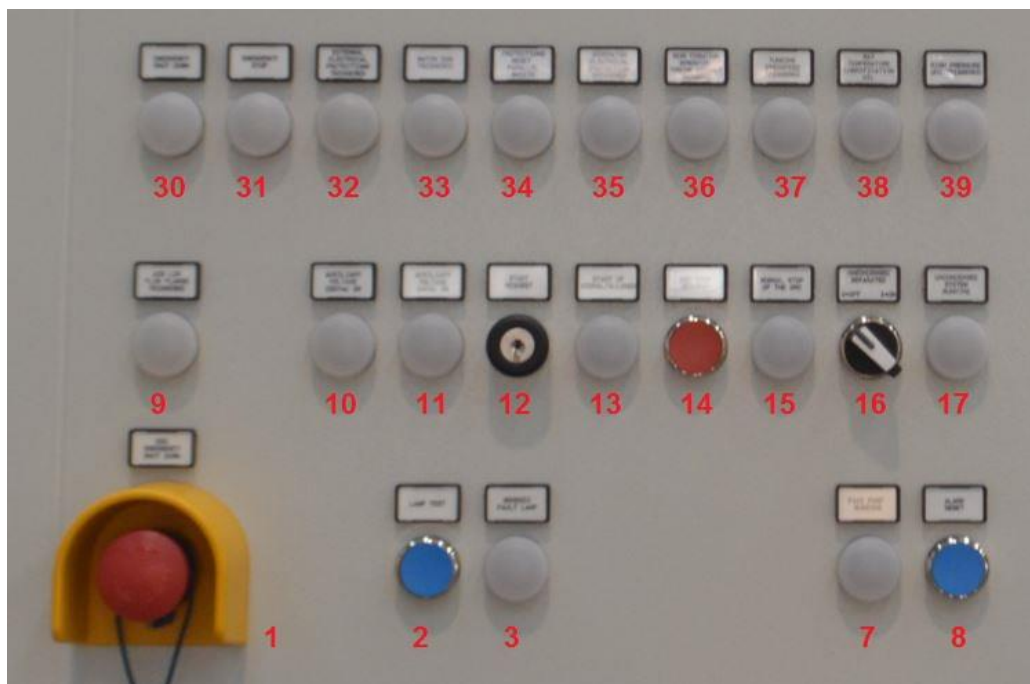

Figure 12.1-1: Control Panel Push Button Panel Q3
With regard to the numbering marked in Figure 12.1-1, the devices and controls that interface with the control system on board the electrical panels will be described.
In this case, it is necessary to reset the alarms (using the relevant key (8) in Figure 12.1-1) and only after will it be possible to restart the machine.